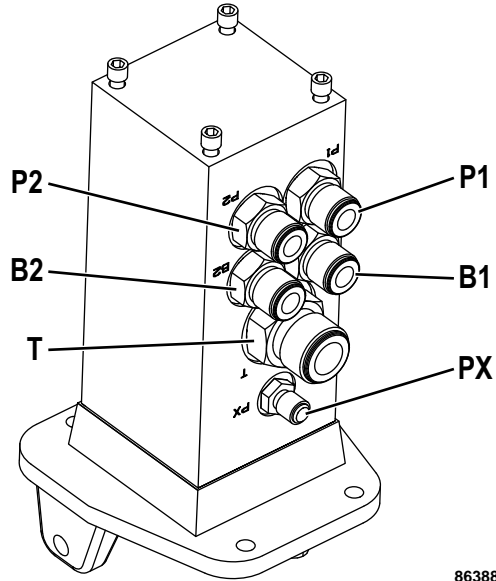

FIGURE 50-4. BRAKE VALVE PORT IDENTIFICATION
2. Unplug and connect six hydraulic hoses (1, Figure 50-2) to their proper ports on brake valve (2). Refer to Figure 50-4.